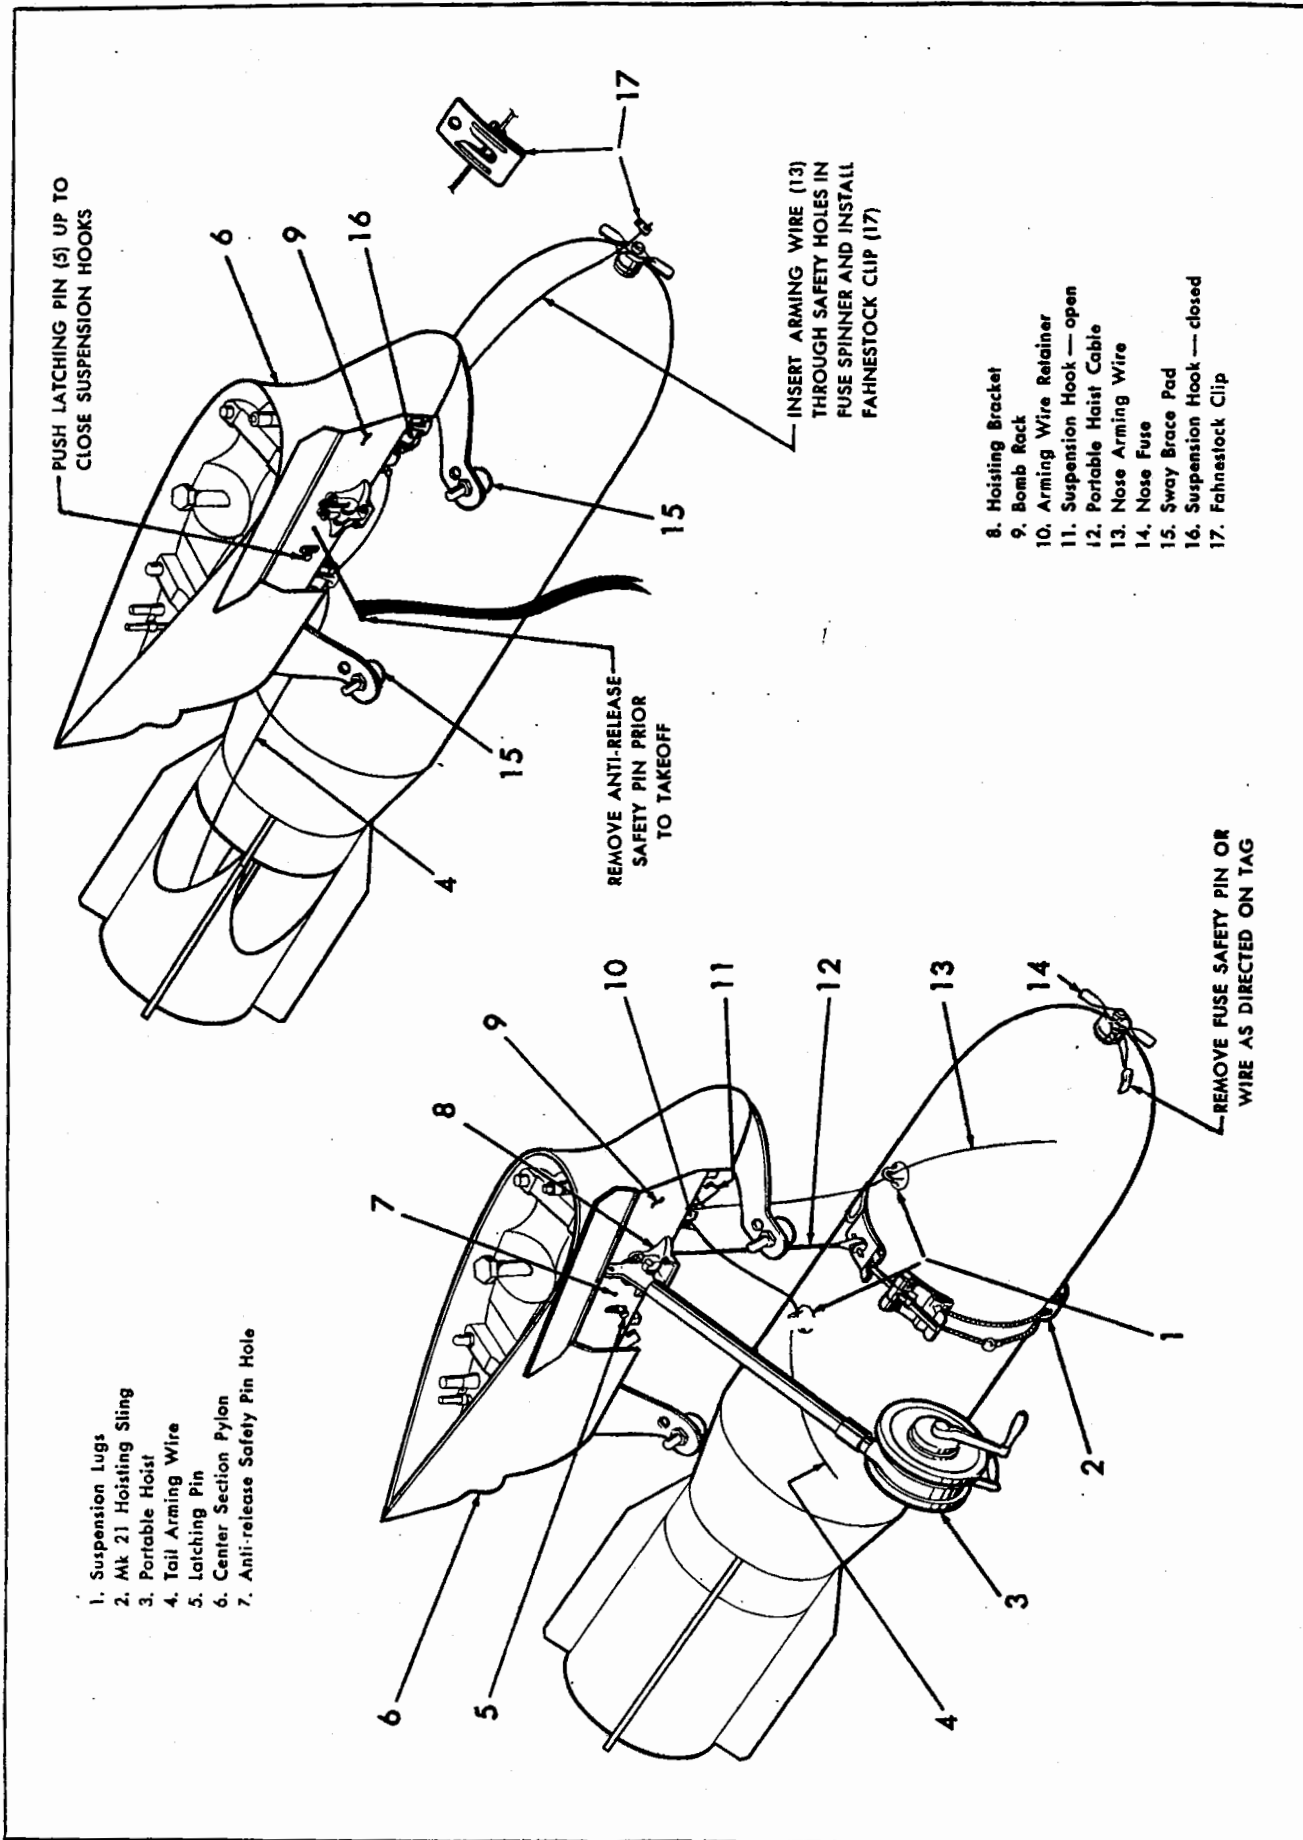

Figure 4-140. Bomb Hoisting.
4-1702. LOADING BOMBS ON CENTERLINE AND CENTER SECTION PYLONS. (See figure 4-140.) The procedure for loading bombs on the centerline and center section pylons is identical. The position of the sway braces depends on the size of the bombs. Note that the sway braces can be positioned so that the sway brace pads extend either forward or aft. When loading small bombs, the sway brace pads may be relocated so that they are closer together.
4-1703. PROCEDURE. (See figure 4-140.) To load a bomb on either a centerline or center section pylon, observe the following procedure:
j. Insert the ends of the arming wires in the holes provided in the nose and tail fuse spinner assemblies. Install a Fahnestock clip on the end of each wire. On some types of fuses, it is necessary to remove a cotter key or safety wire from the fuse before inserting the arming wire. On other types of fuses, the cotter key or safety wire must be left on the fuse until after the arming wire is in place (see figure 4-140).
4-1705. **PROCEDURE.** (See figure 4-140.) To load an 11.75" rocket on either a centerline or center section pylon, observe the following procedure: